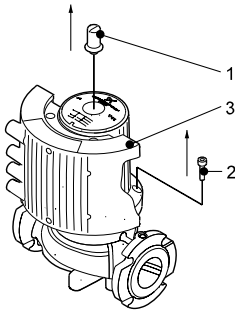

Fig. 1 Removing the control box
1. Remove the inspection screw (1) and the four Allen screws (6 mm) (2) in the stator housing, see fig. 1.